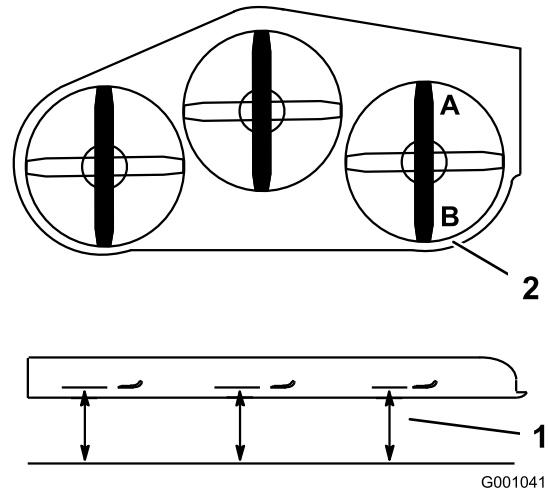

Figure 72
1. Position the **right** blade front-to-rear (Figure 72).
2. Measure the right blade at the **A** location, from a level surface to the cutting edge of the blade tip (Figure 72).
4. Measure the right blade at the **B** location, from a level surface to the cutting edge of the blade tip (Figure 72).
6. The mower blade should be a 1/4 to 3/8 inch (6 to 10 mm) lower at position **A** than at position **B** (Figure 72). If it is not correct, proceed to the following steps.